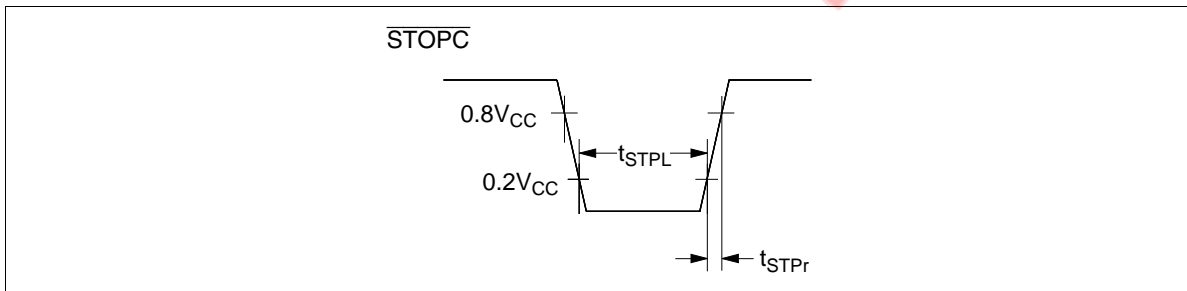

Figure 87 \overline{STOPC} Timing
6. Refer to figure 87.
- Refer to figure 87.